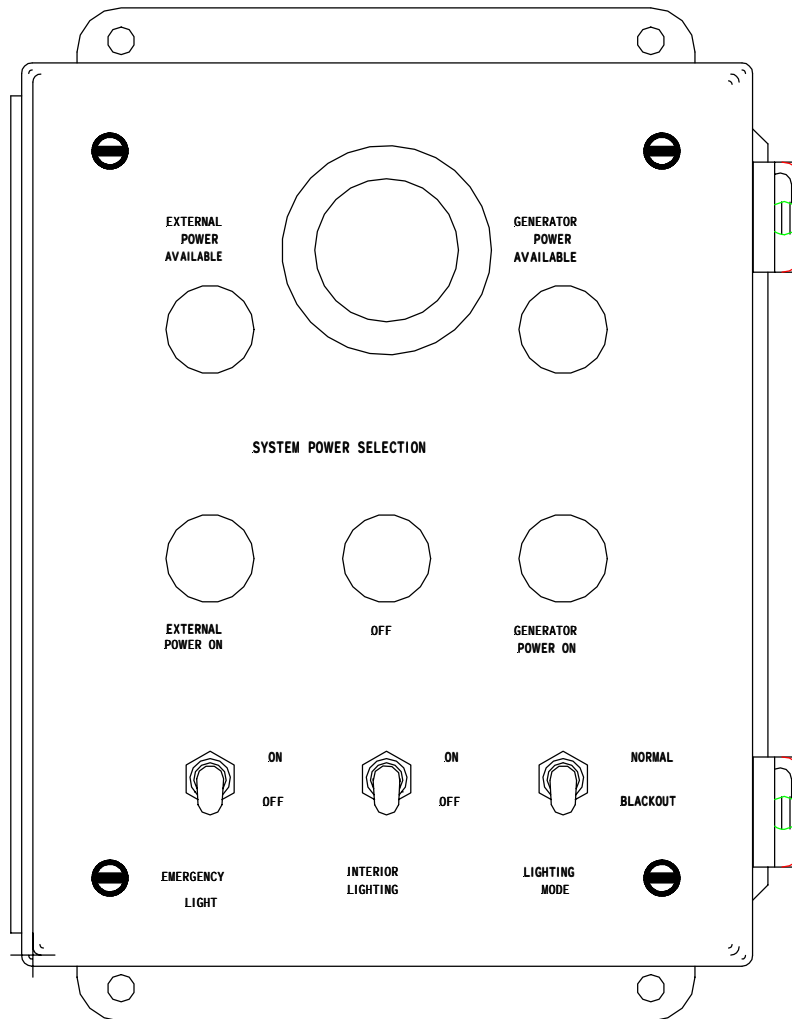

Figure 4. Main Control Panel.
**Switch/Lamp Replacement:** Make sure the external power source is disconnected and the generator is shut down. Referring to Figure 4, label and remove the spade lugs from the switch/lamp to be replaced. Remove the mounting hardware from the front of the panel and remove the switch/lamp assembly. Install the replacement switch/lamp assembly, replace hardware and reconnect spade lug terminals.